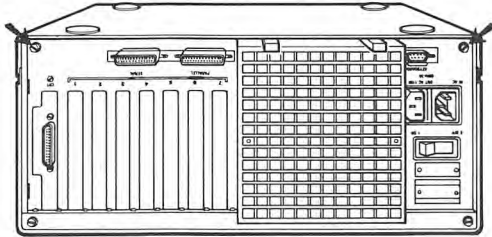

Figure 2-7. Location of bottom cover screws.
10. Carefully turn the processor over and loosen the two screws securing the bottom cover. See Fig. 2-7.